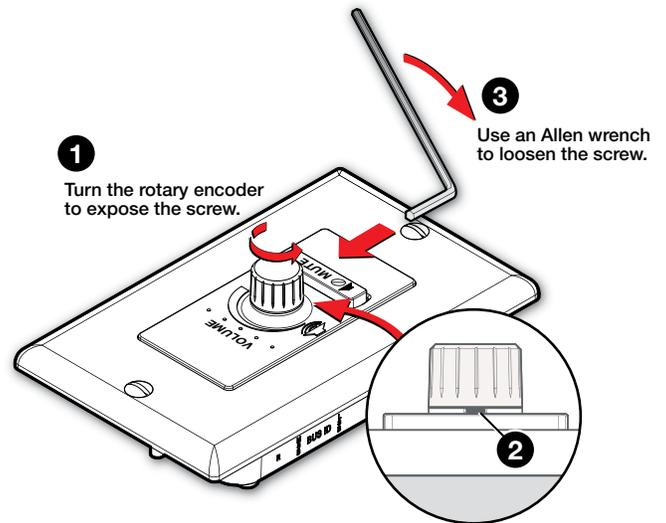

Figure 4. Removing the Rotary Encoder (EBP VC1 D only)
1. Turn the rotary encoder knob (figure 4, ①) to expose the hex screw holding the knob in place (②).
2. Insert the provided 0.05 inch Allen wrench and turn the wrench in the direction shown (③) to loosen the screw.